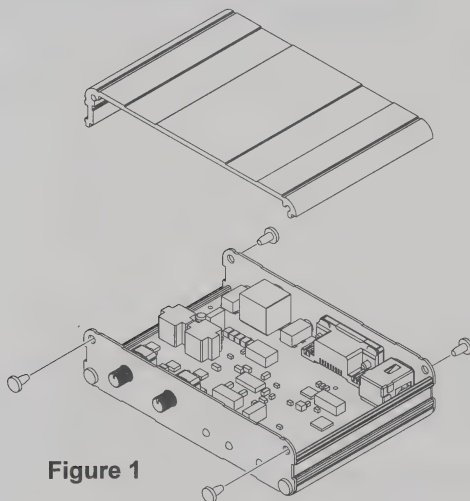

Figure 1
2. Referring to Figure 1, remove the 4 screws attaching the top case, then remove the top case.